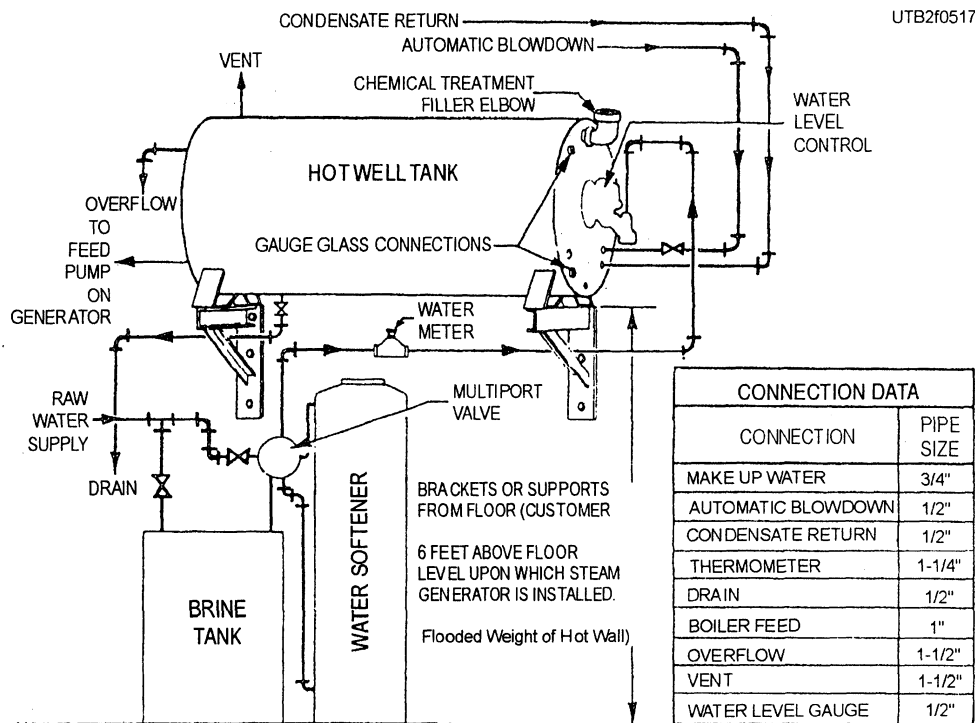

Figure 5-17.—A typical installation of horizontal hot-well tank and connection data.
- Typical hot-well installation and connection data are shown in figure 5-17. The hot well must be elevated on a suitable stand or bracket to allow a 60-inch gravity feed to the inlet of the feedwater pump check valve housing for hot-well temperatures up to 180°F. If higher hot-well temperatures are anticipated, a higher gravity feed is required to prevent vapor locking of the feedwater pump. For hot-well temperatures of 180°F to 200°F, a 72-inch gravity feed is necessary. Temperatures above 200°F require a gravity feed of 84 inches.